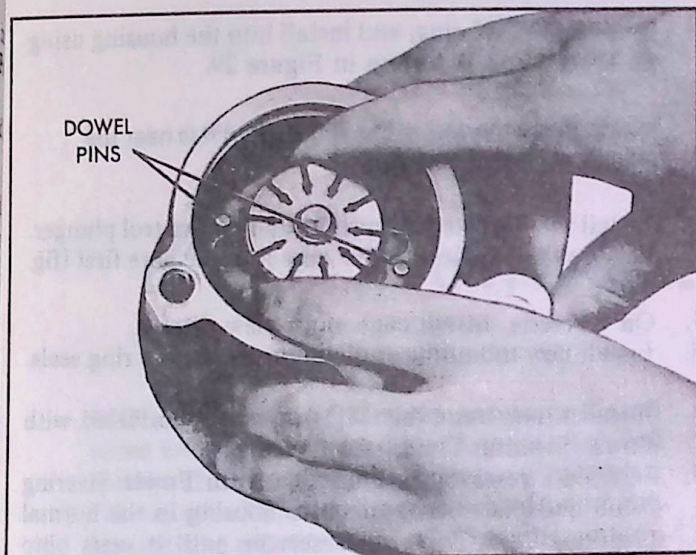

Fig. 24—Installing Shaft, Thrust Plate, and Rotor Assembly
6. Place pump housing in a vise and install shaft, thrust plate and rotor assembly into housing, aligning the holes in the thrust plate with the dowel pins as shown in Figure 24.